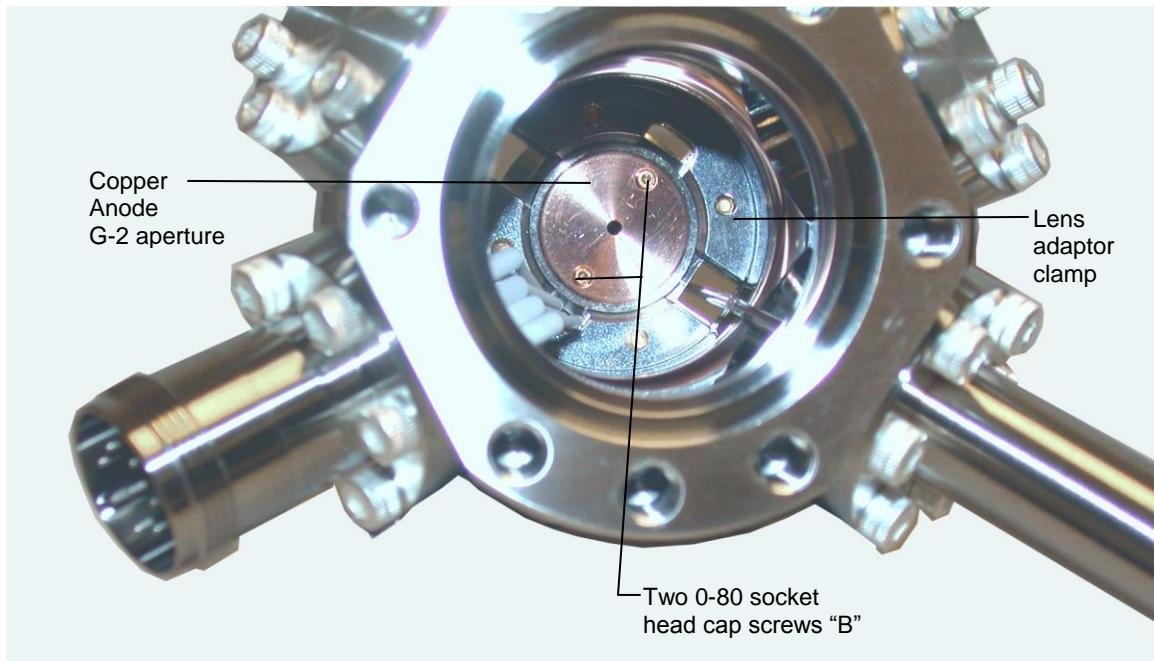

Fig. 6.5-4 Copper anode as seen through the Flange Multiplexer
- a. Reaching into the Flange Multiplexer, remove the two 0-80 socket head cap screws ("B" in Fig. 6.5-4) in the Anode, using a 0.050" Allen wrench
- b. Secure with the two screws ("B" in Fig. 6.5-4).